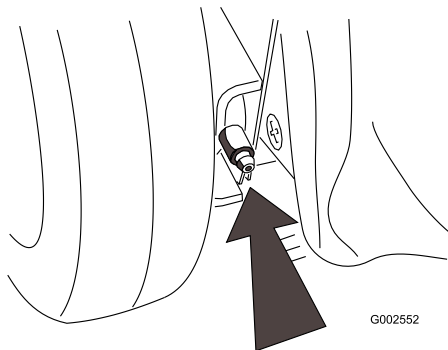

Figure 19
2. Wipe the grease fittings with a clean rag (Figure 19).